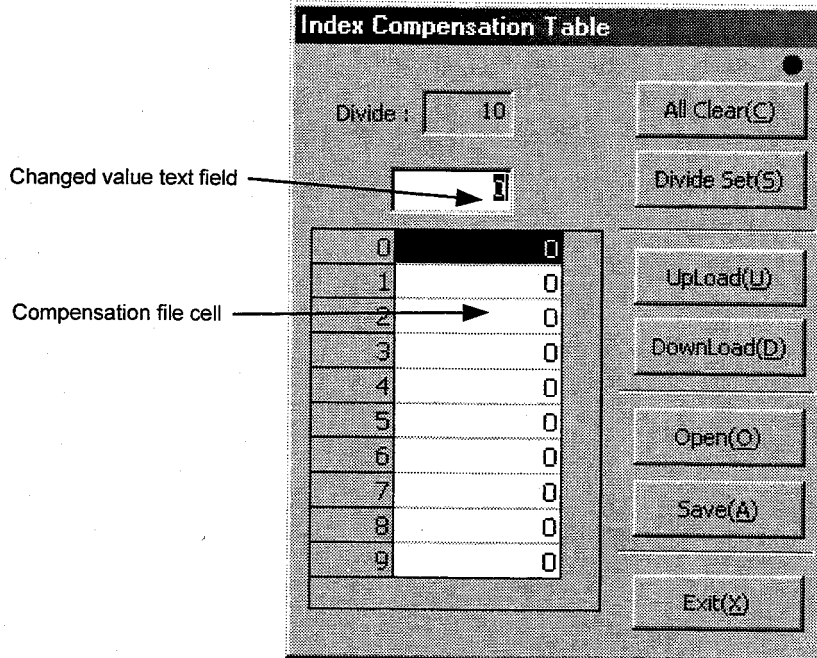

Figure 7.46 "Index Compensation Table" dialog box
Click "*Table Edit (E)*" in the "Index compensation" dialog box to display the "Index Compensation Table" dialog box (see Figure 7.46).